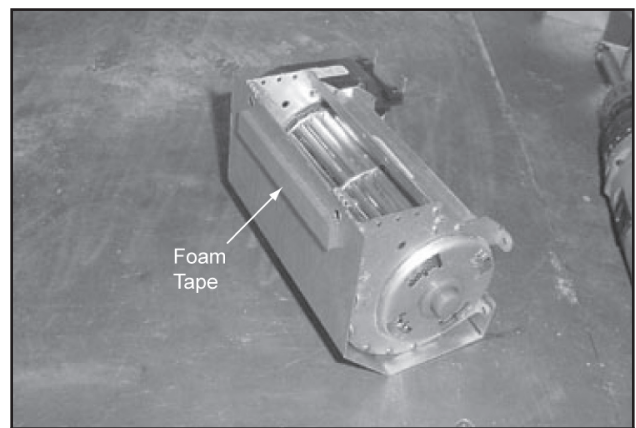
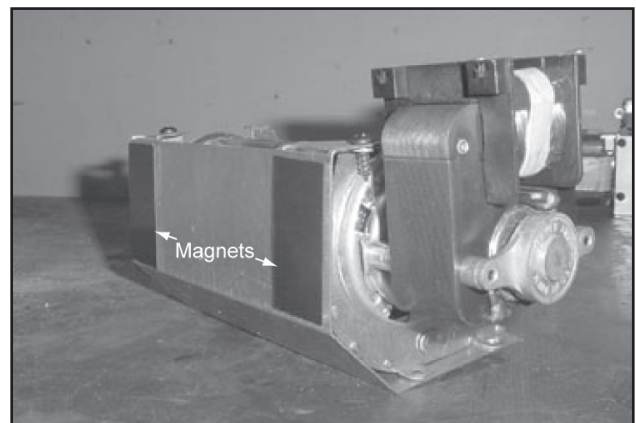

Figure 5 Foam Tape
Figure 6 Magnets
- Attach the foam tape (Figure 5) and magnets (Figure 6) to the fan. Cut one magnet strip in half and save the remaining strip for control module.